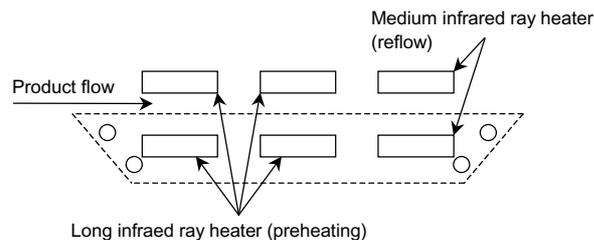

Figure 3.2 Heating Top and Bottom with Long or Medium Infrared Rays
- (1) Using a soldering iron
- (2) Using medium infrared ray reflow
- Heating top and bottom with long or medium infrared rays is recommended (see Figure 3.2).